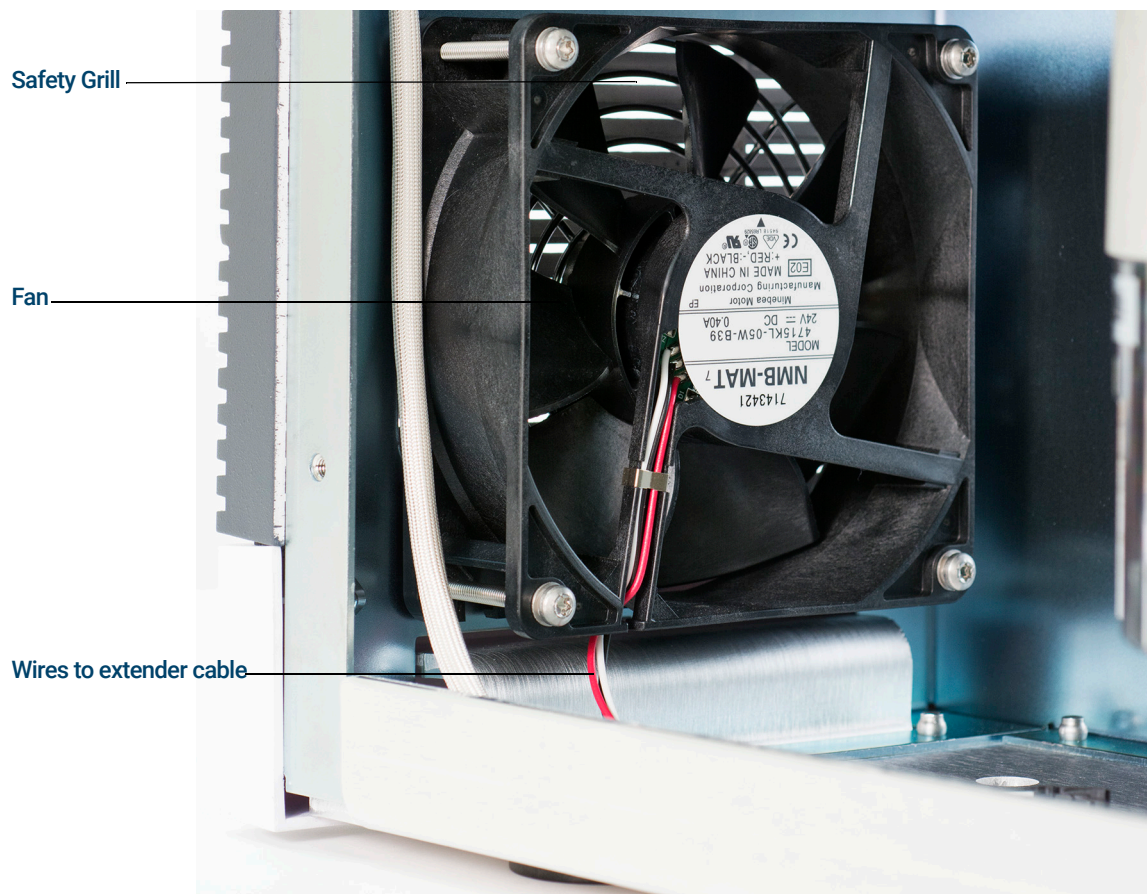

Figure 13. Replacing the turbo pump fan
- 4 Disconnect the fan wiring from the extender cable. (See **Figure 13** on page 104.)